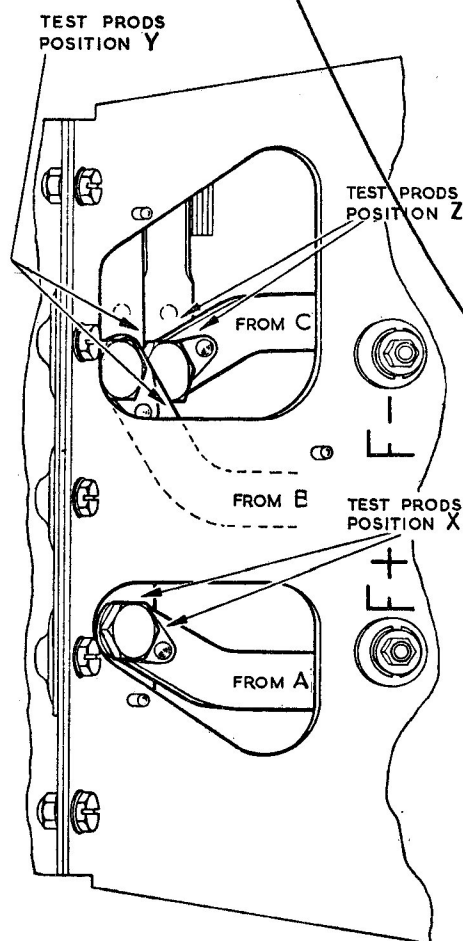

Fig. 4. View with inspection cover removed
30. The joint resistance between the d.c. connection strips and the main rectifier, and the a.c. connection strips and the main rectifier should be checked in the following manner. Connect the d.c. supply across the main rectifier, with the positive side to terminal A and the negative side to terminal B. Pass a current of 36A through the rectifier and test between the prod positions shown in fig. 4 and 5.